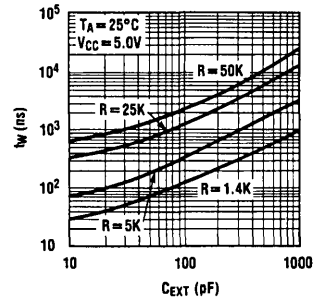

FIGURE 1
- The pulse width is essentially determined by external timing components R_X and C_X . For $C_X < 1000 \text{ pF}$ see Figure 1 design curves on T_W as function of timing components value. For $C_X > 1000 \text{ pF}$ the output is defined as: